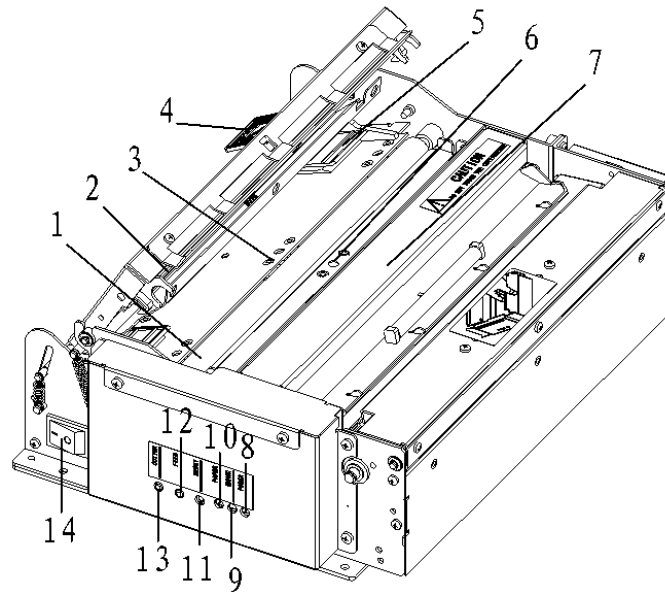
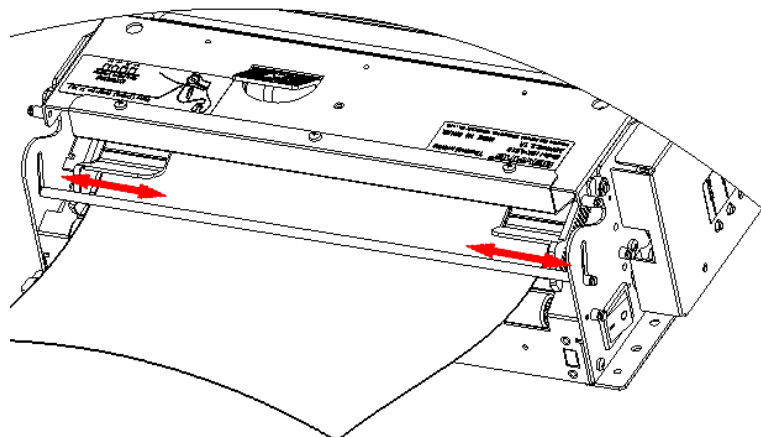

Figure 3.3.1 Printing mechanism
Figure 3.3.2 Paper guide module
- Paper guide module** --It is the path before the printing shown as Fig. 3.3.1 and Fig.3.3.2. The paper guide module has two parts which can move to right or left so that users could adjust it until the paper lies in the middle of the print head. Left and right positioning parts can support the paper width from 210 to 216mm;